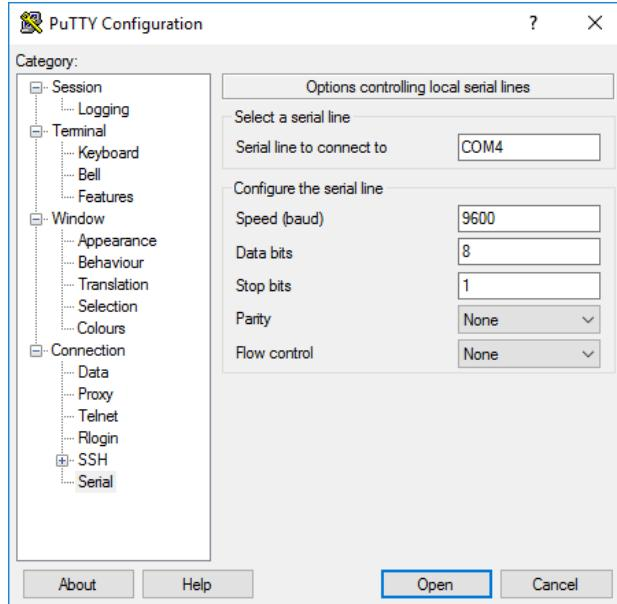

Figure 13: Serial configuration for PuTTY.
- VI. Next you need to open a serial terminal on the PC to display the output. Start PuTTY and in the “Configuration” window, select serial at the bottom of the “Category” box on the left-hand side. This should open a new window as shown in Figure 13.